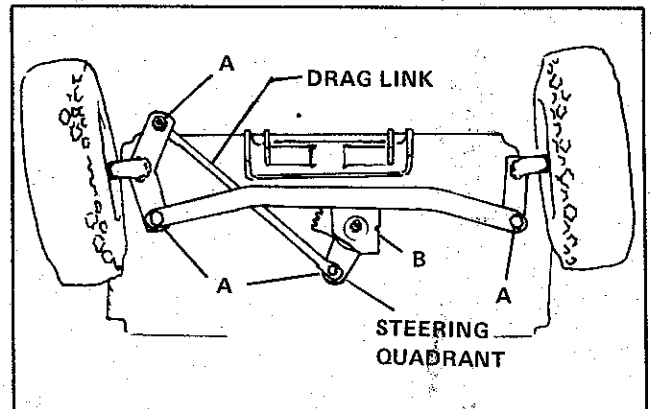

Figure 5-8. Steering Adjustment Points
4. See Figure 5-8, Item A. Remove the drag link from the unit, and remove the two brass bushings from the drag link. Install the two 154177 bushings supplied in the 103326 kit in place of the brass bushings removed. Re-assemble the drag link assembly and torque all items indicated with an "A" to 30 ft. lbs.
5. See Figure 5-8, Item B. Loosen the steering quadrant from the tractor. Remove the two washers, lock screw and flange nut while doing this. Now reinstall the quadrant using the 178489 washer, 178490 washer, 715182 lock screw and 718073 flange nut supplied in the 103326 kit in place of the items previously removed. Torque this assembly to 60 ft. lbs.